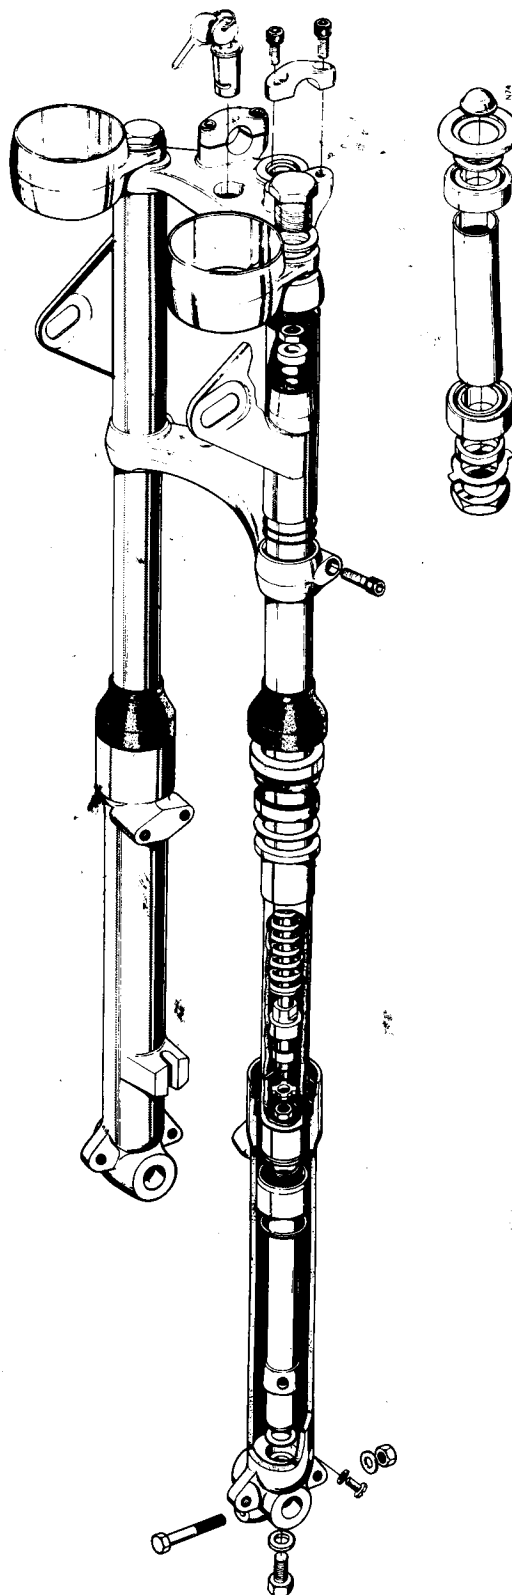

Fig. G5 Front fork exploded view
Consider that as the front wheel meets a bump in the road surface the front forks are compressed against the main springs. As the wheel passes the bump the forks are permitted to return to the static position. Should the motor-cycle become "front end light" such as negotiating a hump-backed bridge, the fork extends fully but once again on level road, returns to the static position. The natural tendency for a spring controlled suspension system is to over react and oscillate before returning to static position. Such a system would result in a pitching motion on rough roads and a subsequent loss of stability. To counter this condition, oil damping is provided which in the case of the Commando fork slows down the spring return both on compression and extension. Each fork slider contains 150 cc of oil which is metered by a rod and valve damper assembly. The damping sequence is detailed in the following text and the complete fork assembly is shown in *Fig. G5*. In the latter diagram "A" illustrates the fork at rest with parts descriptions, "B" the fork compressing and "C1" and "C2" the fork extending.
- 6 Remove the damper tube anchor bolt (the various components are shown in Fig. G5) and collect the thick washer.
- 2 Grip the damper rod in a vice and fit the damper valve stop pin. The order of assembly is shown in Fig. G5.